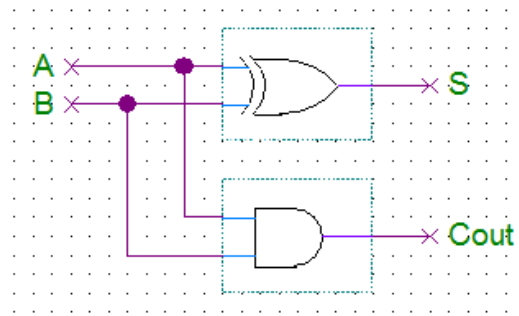

Figure 1 - Half-Adder
First, the S output is only HIGH when only one of the inputs is HIGH and this type of logic is implemented with a XOR gate. Cout is only HIGH when both inputs are HIGH so that will be implemented with an AND gate. See Figure 1.
1.2. Build the half-adder described in Figure 1.